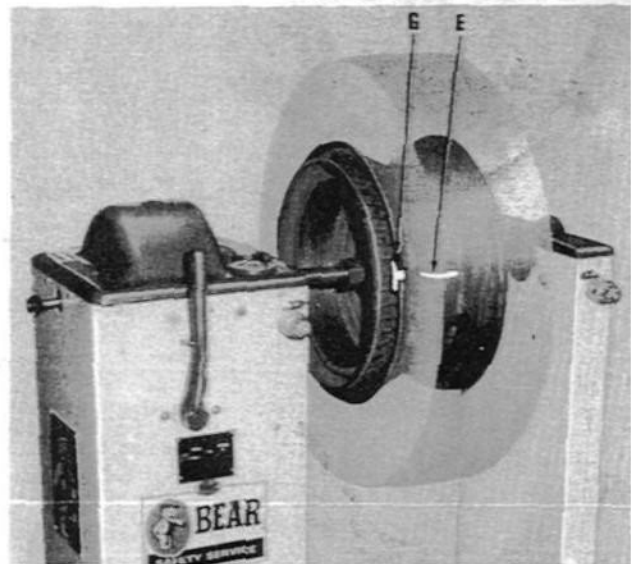
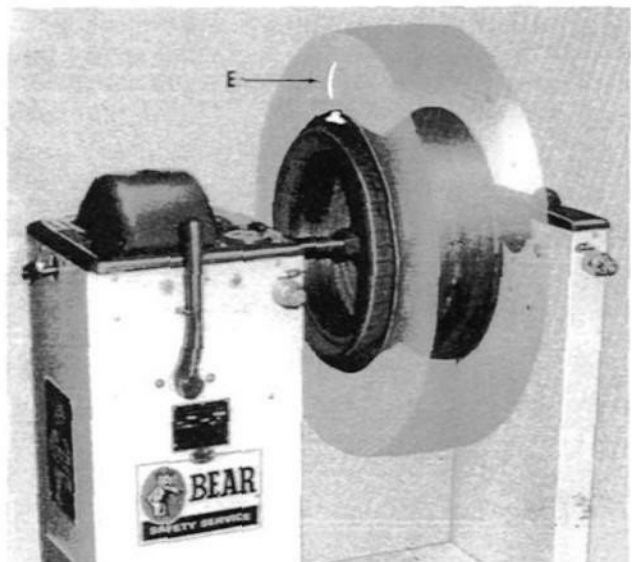

Fig. 9
Fig. 10
3. Add sufficient static weight, G Fig. 9, at the static mark, E Fig. 9, to exactly balance the assembly.
4. When wheel is in static balance, wheel will stand in either position with static mark toward operator, E Fig. 9 (90 to vertical) or straight up, E Fig. 10. If the wheel stands still with the static mark towards operator but rolls when the static mark is at the top; move the static weight or weights, along the wheel *into the roll*. The wheel must remain stationary in both positions.